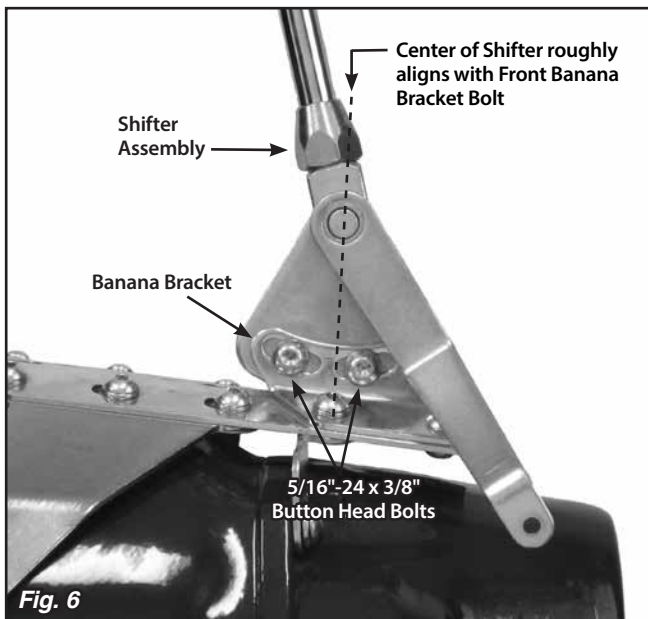

Fig. 6
**Step 8: (Continued)** Transfer that measurement to the transmission (or to the engine/transmission assembly if the engine is not installed in the vehicle). Mark that location on the shifter's main plate. The holes in the main plate that are closest to your mark are where the **FRONT** banana bracket bolts will need to be installed. **Fig. 6**
**Step 10:** Make sure the two 5/16"-24 x 3/8" button head bolts that attach the left side banana bracket to the shifter assembly (in the curved, slotted holes) are tight. Before tightening the shifter assembly down to the main plate, move the shifter lever through all of the gear positions. Make sure that the shifter lever and knob do not come in contact with the dash or the seat. The shifter assembly can be tilted forward or backward if needed by loosening the 5/16"-24 x 3/8" button head bolts in the curved, slotted holes in the left side banana bracket. **Fig. 6**
Double check to make sure that the bolts connecting the **left** side banana bracket to the shifter assembly are tight. **Fig. 6**